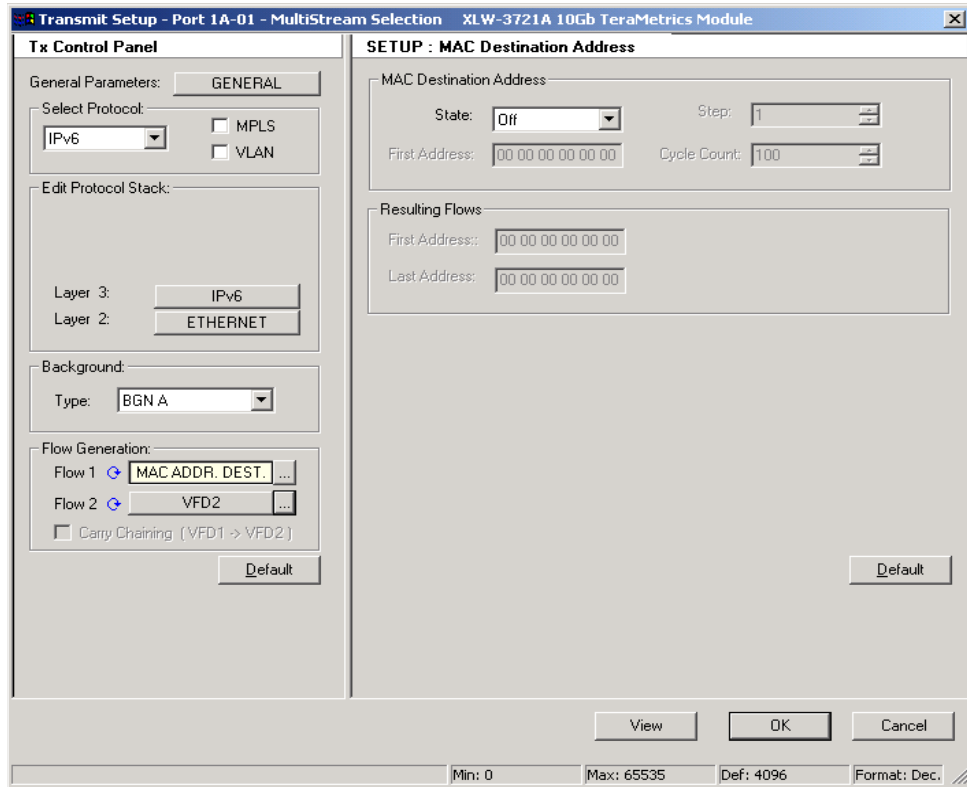

Figure 8-52. Layer 2 Flow Control
- 2 Click the ... button adjacent to the **Flow 1** button to access a pull-down menu, and select **MAC.ADDR.DEST.** (See *Figure 8-52.*) Use this programmable variable field in the test frame as the basis to generate flows.